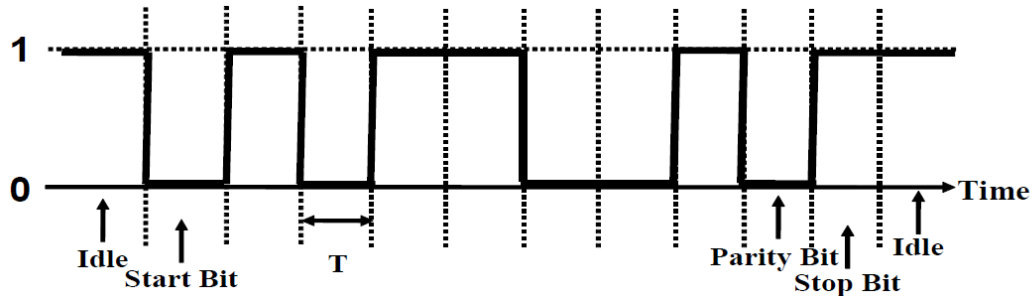

Fig. 2
2) **Fig. 2** shows the logical waveform of an asynchronous data frame.
Answer the following question with reference to **Fig. 2**:
- i. The value of **T** in **Fig 2**.
- (f) Assume the baud rate of the transmitter is 4800, but the baud rate of the receiver is configured as 9600. Based on **Fig. 2**, determine, if any, the ASCII character(s) that will be received.
- (g) Redraw the waveform in **Fig. 2** if the MAX233 line driver is used to produce a RS-232 compatible signal. You can assume the MAX233 produces signals of  $\pm 15$  volts.